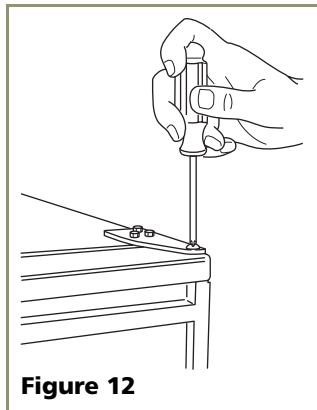

Figure 12
1. Remove top hinge screw pin with a Phillips head screwdriver (see **Figure 12**). Remove door by tilting forward and lifting off bottom hinge pin.